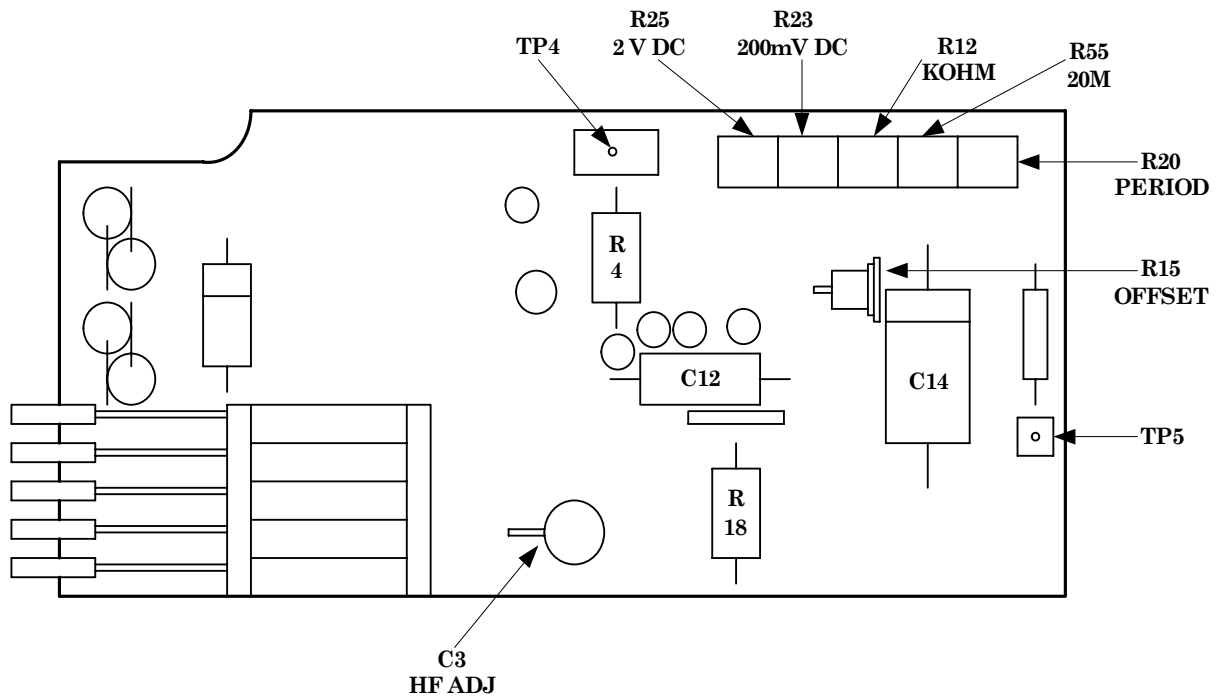

Figure 1. Model 8000A – top view.
- e. Short **V-Ω** and **COMMON** terminals. If TI does not indicate between 00.0 and 00.1, adjust R15 OFFSET (fig. 1) until TI indicates 00.0 (\pm sign flashing).
(1) Adjust calibrator for a 190 mV dc output. Adjust R23 200mV DC (fig. 1) until TI indicates 190.0 mV dc. Reverse leads and adjust R15 OFFSET (fig. 1) until TI indicates -190.0 mV dc(R).
(2) Adjust calibrator for a 1.9 V dc output. Adjust R25 2V DC (fig. 1) until TI indicates 1.900 V dc (R).
b. Adjustments. Adjust calibrator output voltage to 19 V ac. Adjust C3 (HF ADJ) (fig. 1) until TI indicates 19.00 V ac (R).
- (1) Set calibrator for 19.00 MΩ. Adjust R55 20M (fig. 1) until TI indicates actual resistance of calibrator (R).
- (2) Adjust calibrator for 19.00 kΩ. Adjust R12 KOHM (fig. 1) until TI indicates actual resistance of calibrator (R).